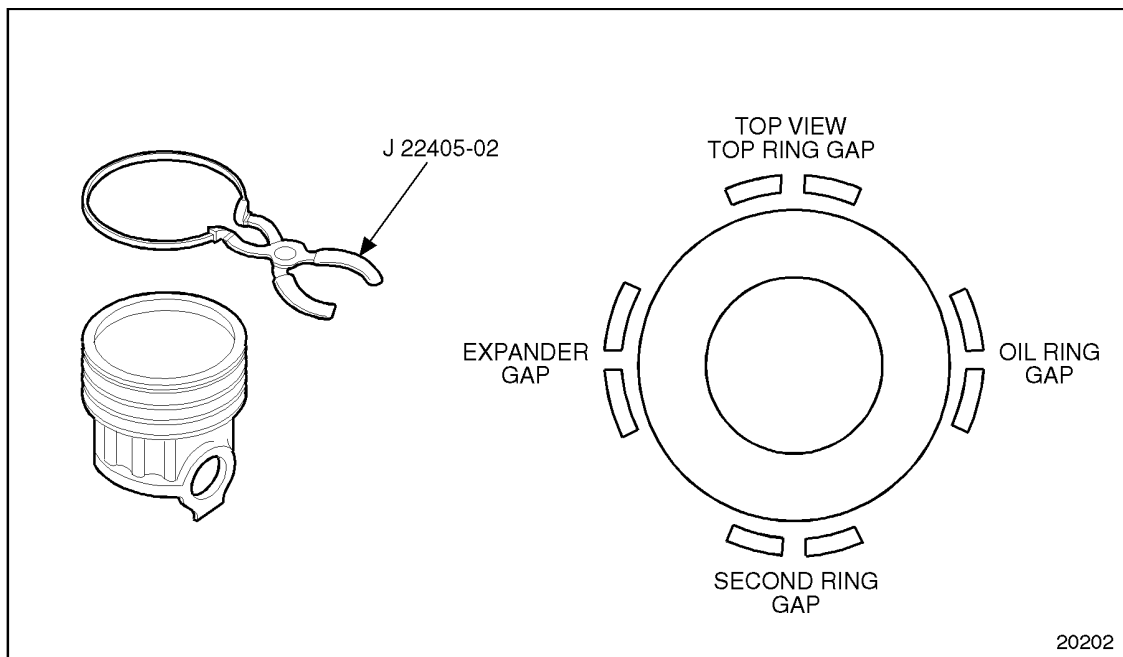

Figure 1-237 Piston Ring Positioning
1. Starting with the compression ring (second groove), install the compression ring and fire ring with tool J 22405-02. See Figure 1-237. Make sure the identifying dimple on the rings is installed up, toward the dome of the piston. See Figure 1-228 for ring identification and locations.
2. Stagger the ring gaps around the piston. See Figure 1-237.